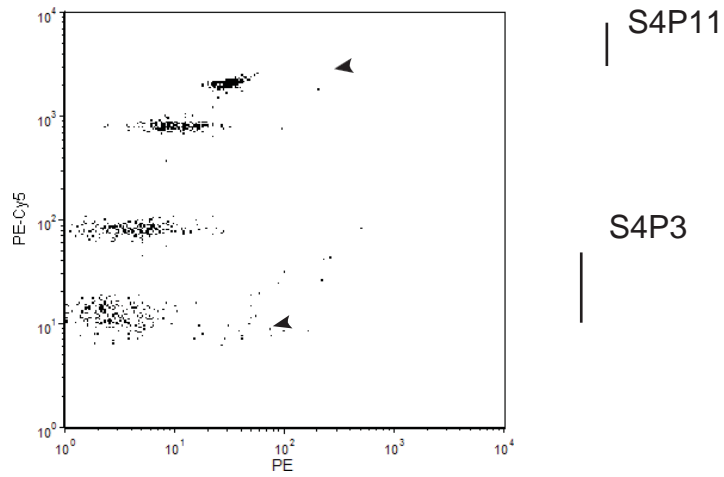

Figure 2
- 5) Adjust “PE-Cy5” PMT voltage so that all the bead populations are clearly separated on the histograms and dot plots (Figure 2).
- 6) Adjust PE PMT voltage so that the dimmest bead population is positioned within the first decade on the PE-axis of the plot (Figure 2).